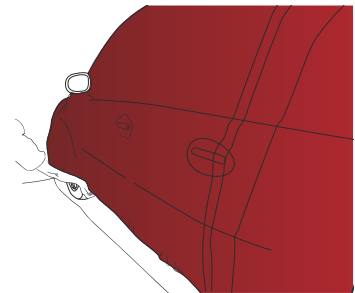

Figure 21
- Stretch the film over the door handles and, using a squeegee, apply the film all around the door handles. Once the door handles are done, stretch the film down to the bottom of the vehicle body. (FIG. 21)